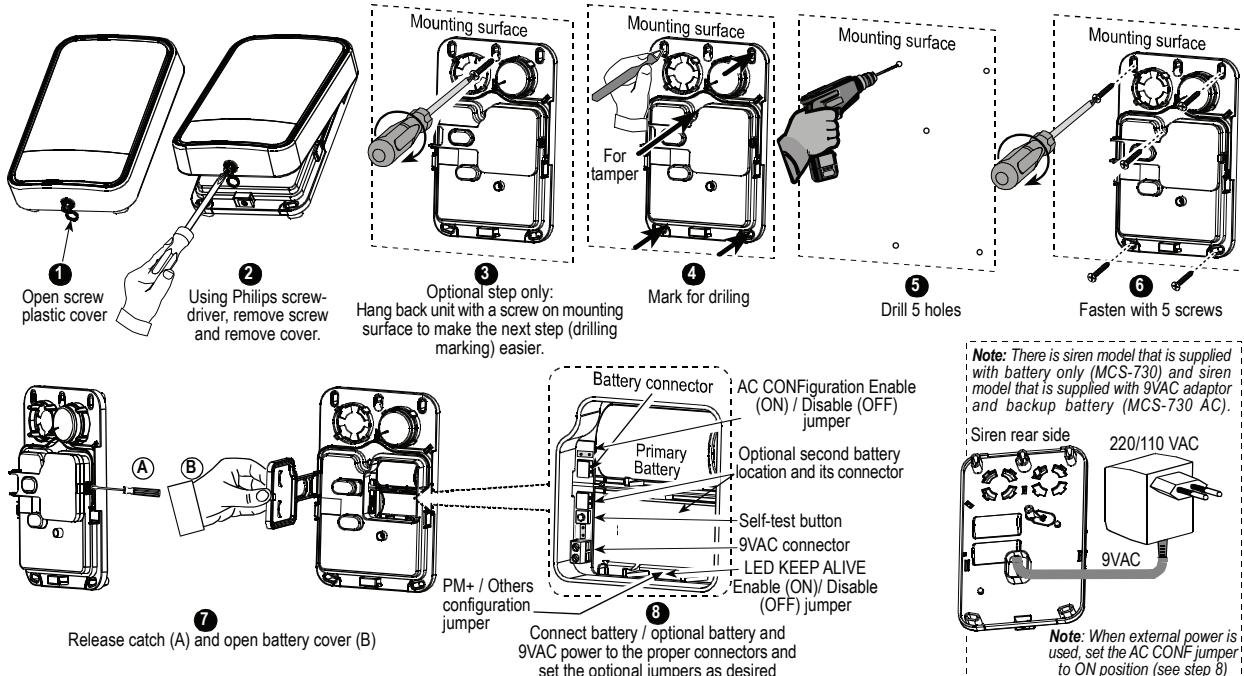

Figure 3 – Installation
- Siren activity LED:** A flashing LED (optional, at the bottom of the siren front panel) indicates siren activity (can be disabled by an internal jumper, see fig. 3, step 8)
Press the self test button (see figure 3 step 8). Low level piezo sounds and flash lights indicate that the siren is fully operational.
#### 3.3 Configuration (see figure 3, step 8)
The alarm system must recognize the siren's unique identification code for command delivery and supervision. To enroll the siren into the alarm system memory, refer to the ENROLLING section of the alarm system installation instructions, and momentarily press the Self-Test button (see figure 3 step 8) when you are instructed.